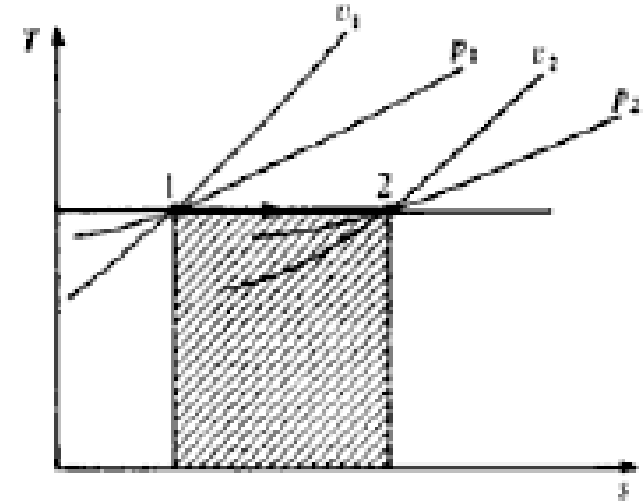

Fig.4.16:Reversible isothermal process for a perfect gas
- A reversible isothermal process for a perfect gas is shown on a T-s diagram in Fig. 4.16.